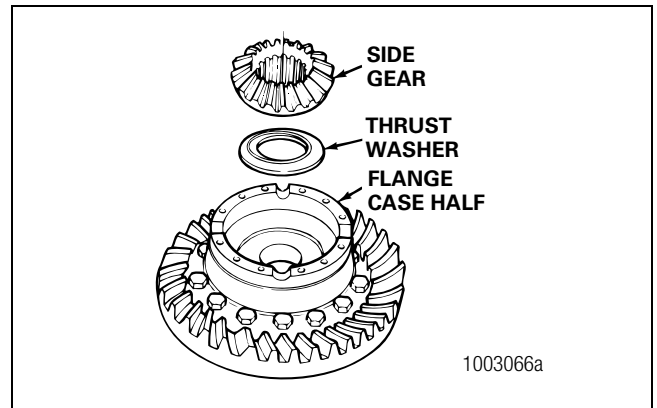

Figure 5.41
11. Install one thrust washer and side gear into the flange case half. Figure 5.41.